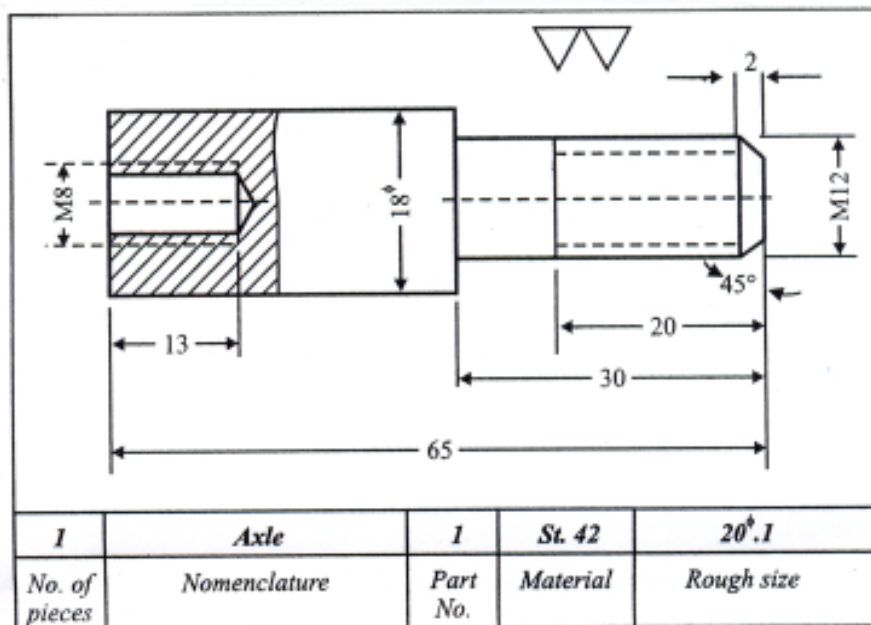

Fig. 2.5. Component drawing of an "Axle".
3. Prepare a process plan for a component to be produced by using standard lathe machine as shown in fig. 2.5.